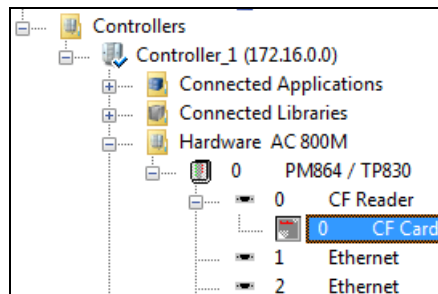

Figure 105. The Controllers item expanded and the CF Card connected to the CF Reader item.
1. Expand the **Controllers** item until you reach the **CF Reader** (or **SD Reader**) item (see Figure 105).